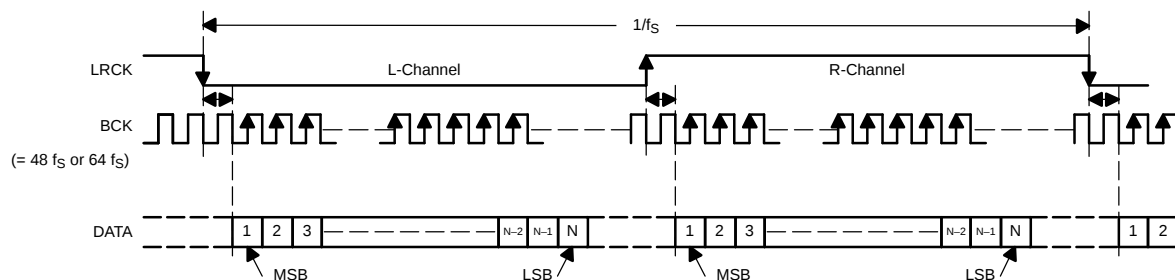

Figure 18. Audio Data Input Formats
The TPA3200D1 supports I2S and 16-bit-word right-justified. The data formats are shown in Figure 18. Data formats are selected using the FORMAT pin on the TPA3200D1. All formats require binary 2s-complement, MSB-first audio data. Figure 17 shows a detailed timing diagram for the serial audio interface.
- (1) A digital data stream consists of two channels of data. In an I2S or right-justified data stream, the left-channel data precedes the right-channel data (See Figure 18). The LR\_SEL input selects the channel to send to the mono output.